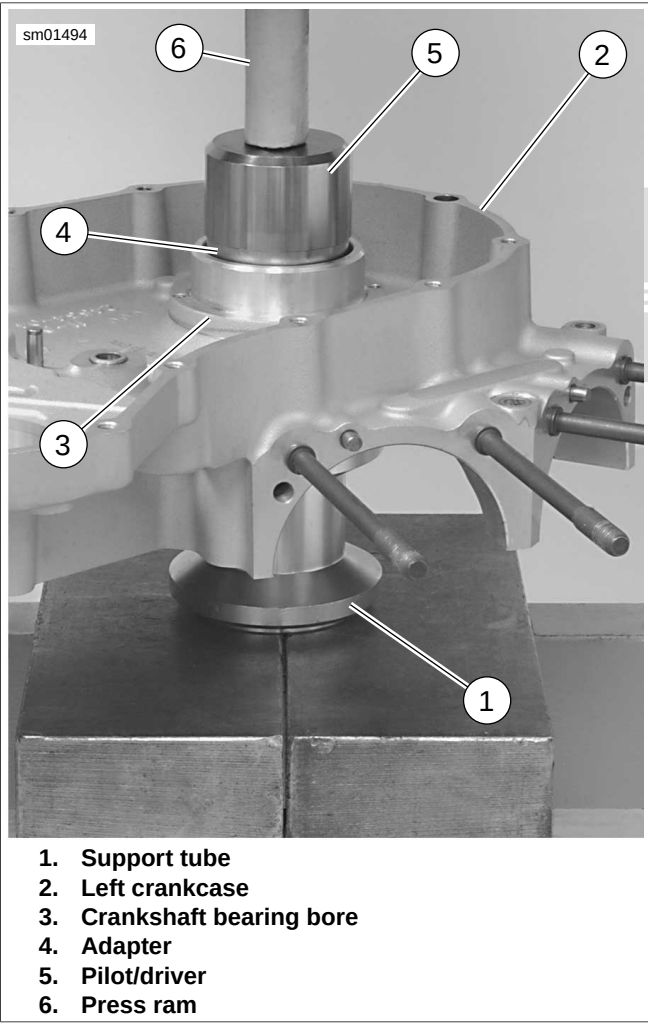

Figure 3-155. Removing Left Main Bearing from Crankcase
8. See Figure 3-155. Using CRANKCASE BEARING REMOVER/INSTALLER WITH ADAPTER (Part No. B-45655, HD-42720-2, HD-46663) press left main bearing out of the left crankcase.
- a. Place support tube (1) on press bed with recessed cup end facing up.
- b. With the outboard side of the left crankcase (2) facing upward, position crankshaft bearing bore (3) over support tube.
- c. Place adapter (4) over left main bearing. Insert pilot/driver (5) through adapter, through left main bearing and into support tube.
- d. Carefully apply pressure with press ram (6) until left main bearing drops free.